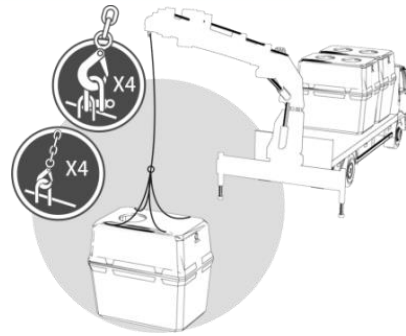

Fig 12: Handling the C-90 tank
- ⚠ When installing two tank units, it is essential to keep a **minimum gap of 50 cm** between each tank and to lay the bedding in a step pattern as shown in figure 12.